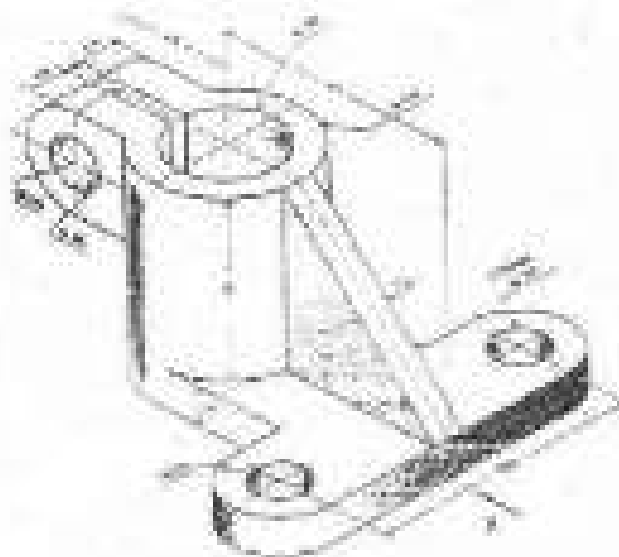

Fig.4a
- Design and draw neat dimensional drawing in three views with one sectional view of a jig for drilling two holes  $\phi 20$  as shown in figure 4a. Show clearly the details of location, clamping and guiding elements. Assume this as a final operation. [26]